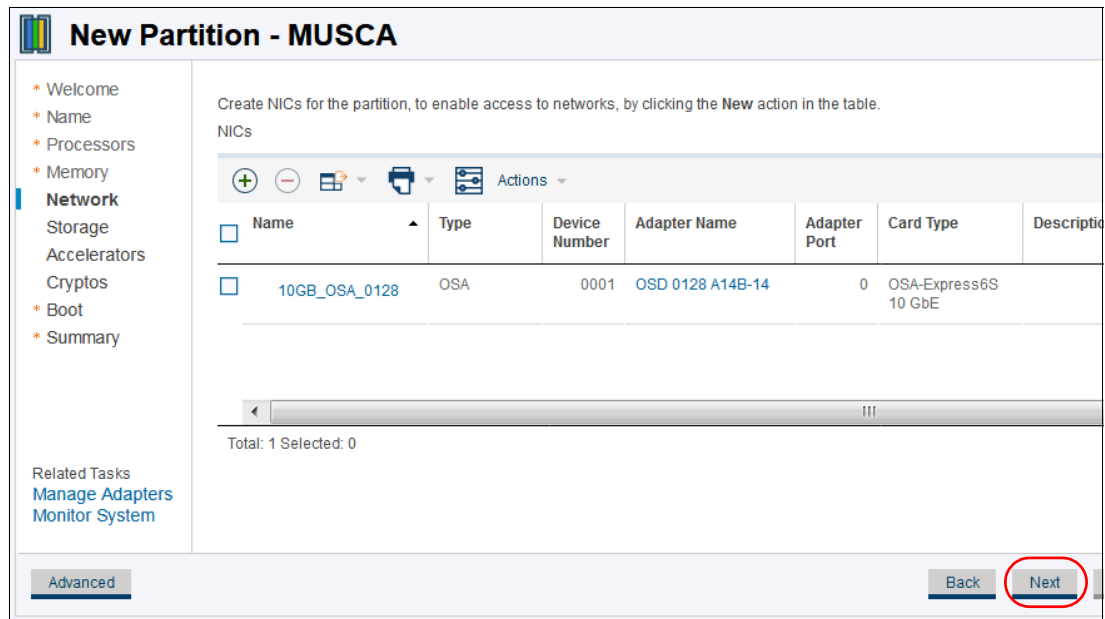

Figure 16-36 Network device configured
- We selected an OSA-Express adapter and created one device (Device number 0001) for our partition, as shown in Figure 16-36.